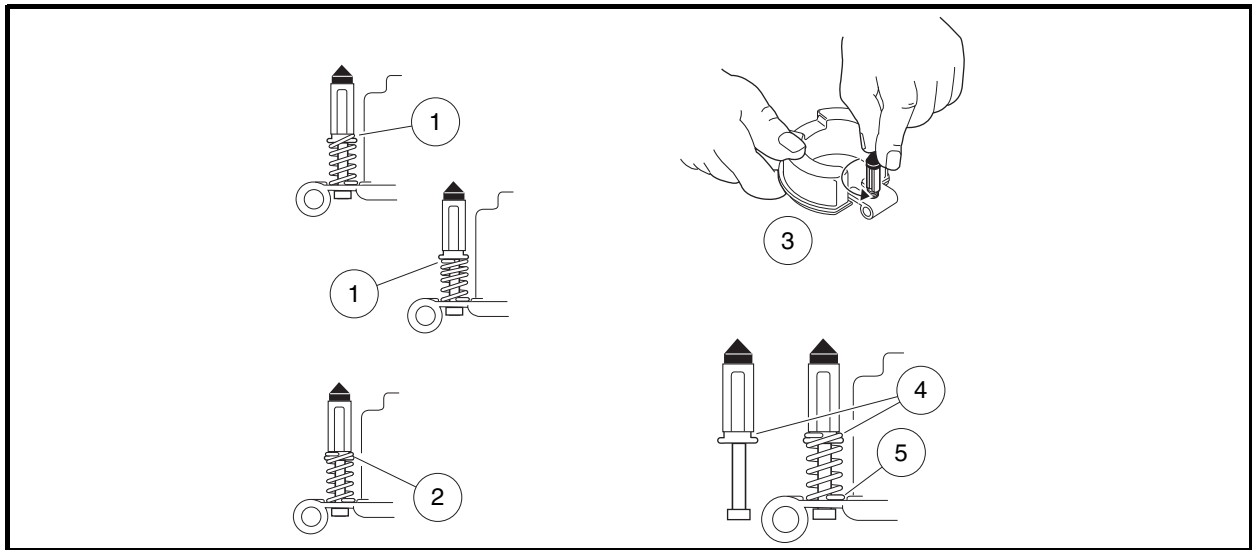

Figure 16-5 Inspect Float Valve/Spring Assembly – Adjust If Required
NOTE: Inspect the main jet nozzle (7), and pilot jet (4) to ensure they are free from contamination. Replace any part that is clogged with contamination. Replace the float if it is damaged, or if the float valve is damaged or worn. Examine the float valve/spring assembly to make sure the spring is installed correctly (**Figure 16-5, Page 16-5**).